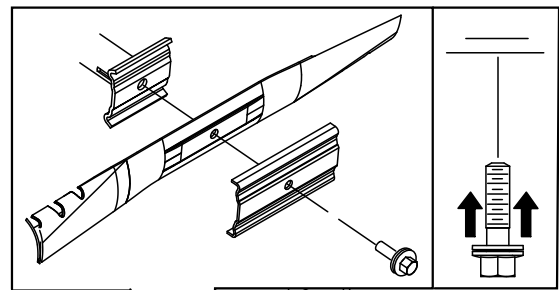

Figure 45
3. Use a block of wood to hold the blade steady (Figure 45).
4. Remove the blade, saving all mounting hardware (Figure 45).
5. Install the new blade and all mounting hardware (Figure 45).